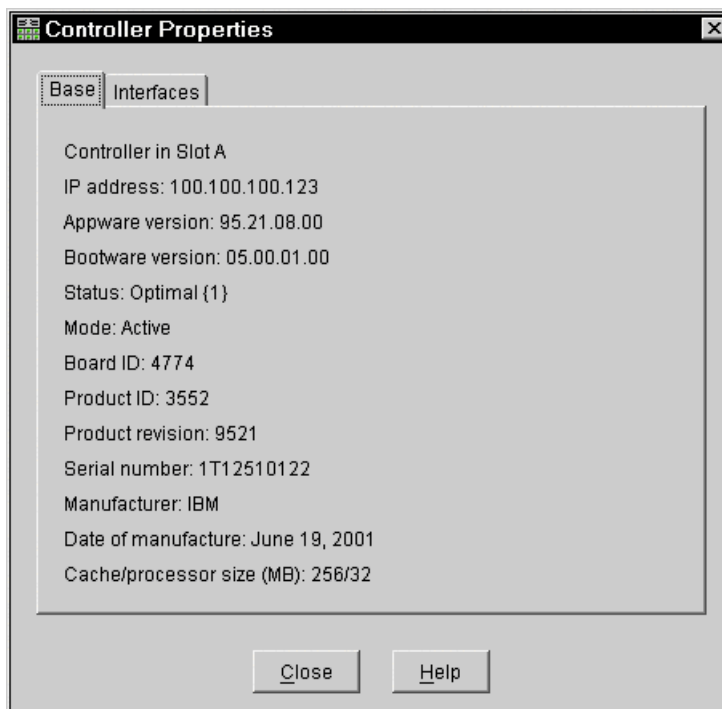

Figure 7-16 Controller A properties after the update
5. After the update is complete, verify the new firmware and NVSRAM by right-clicking each controller in the physical view and selecting **Properties** (Figure 7-16).